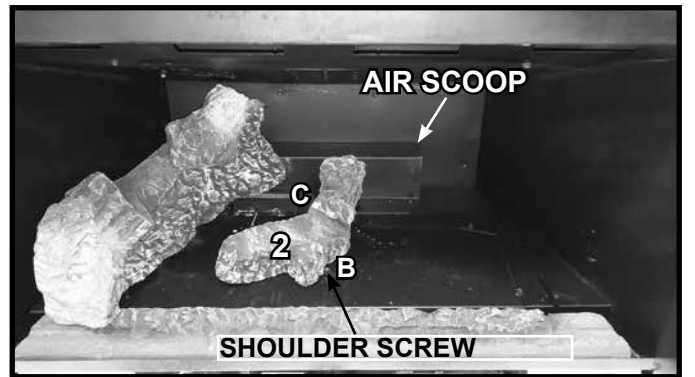

Figure 4. Log #2 Installed
**LOG #2:** Set Log #2 on the burner between pins B and C. Rotate the log counter clockwise until it contacts both pins B and C and slide it back until it contacts the Air Scoop. Ensure Log #2 is not covering any ports. See Figure 4.